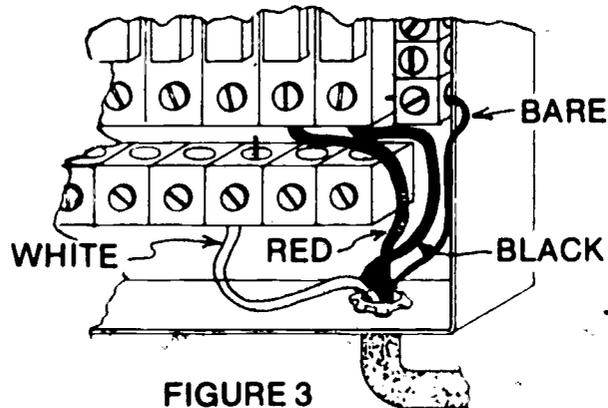

FIGURE 3
- L. Connect ungrounded conductors to appropriate overcurrent device (Figure 3)